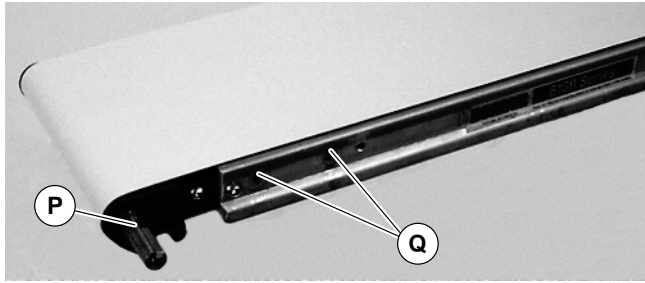

Figure 3
2. Locate drive output shaft (P of Figure 3) and remove two (2) screws (Q).